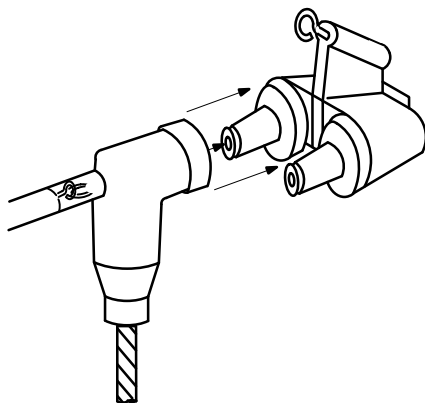

FIGURE 4
4. Remove the elbow from the equipment bushing following applicable loadbreak operating instructions. Insert the elbow into the nearest feed-thru plug and push until it is firmly in place and the internal locking ring is seated. See Figure 4.